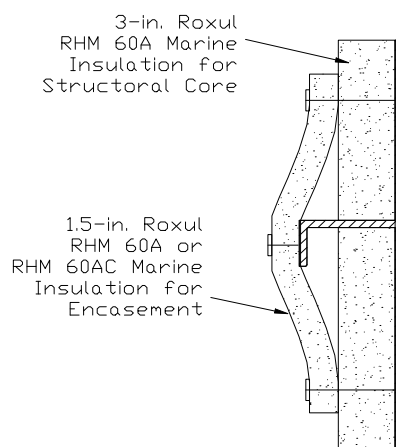
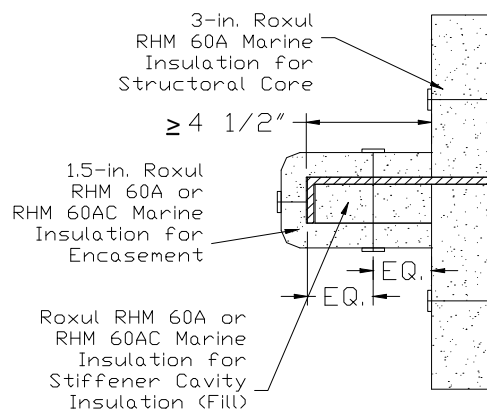

Figure 1B
Figure 1C
1.1 Following appropriate bulkhead preparation to insure proper pin welding to the bulkhead and stiffeners, 12 gauge steel weld pins are welded to the bulkhead face plate between the stiffeners and on the face of the stiffeners, up to 14 inch (356 mm) on centers at the locations shown in **Figure 1**, and **1A** or **1B** or **1C**. Weld pin placement must be maintained with a maximum of 6 inches (152 mm) from horizontal insulation seams and a maximum of 3 inches (76 mm) from the closest vertical outside edge of the stiffener insulation. For a void space less than 2 inch (51 mm), **Figure 1B**, measuring between the core insulation and stiffener flange, the insulation encasing the stiffener shall be made wider to include the attachment of the closest weld pin holding the structural core insulation in place. Should the stiffener leg be equal to or greater than 2 inch (51 mm) measuring between the core insulation and steel stiffener flange, **Figure 1C**, install additional weld pins on the same stiffener pin placement centers equidistance between stiffener flange and the top of structural core insulation.
1.3 In the event that the stiffener cavity is not entirely filled with the structural core insulation (when weld pins on web of stiffener are required), **Figure 1C**, fill the void with additional Roxul[®] RHM 60A or RHM 60AC marine insulation to completely contain the opening between stiffener flange and the structural core insulation.